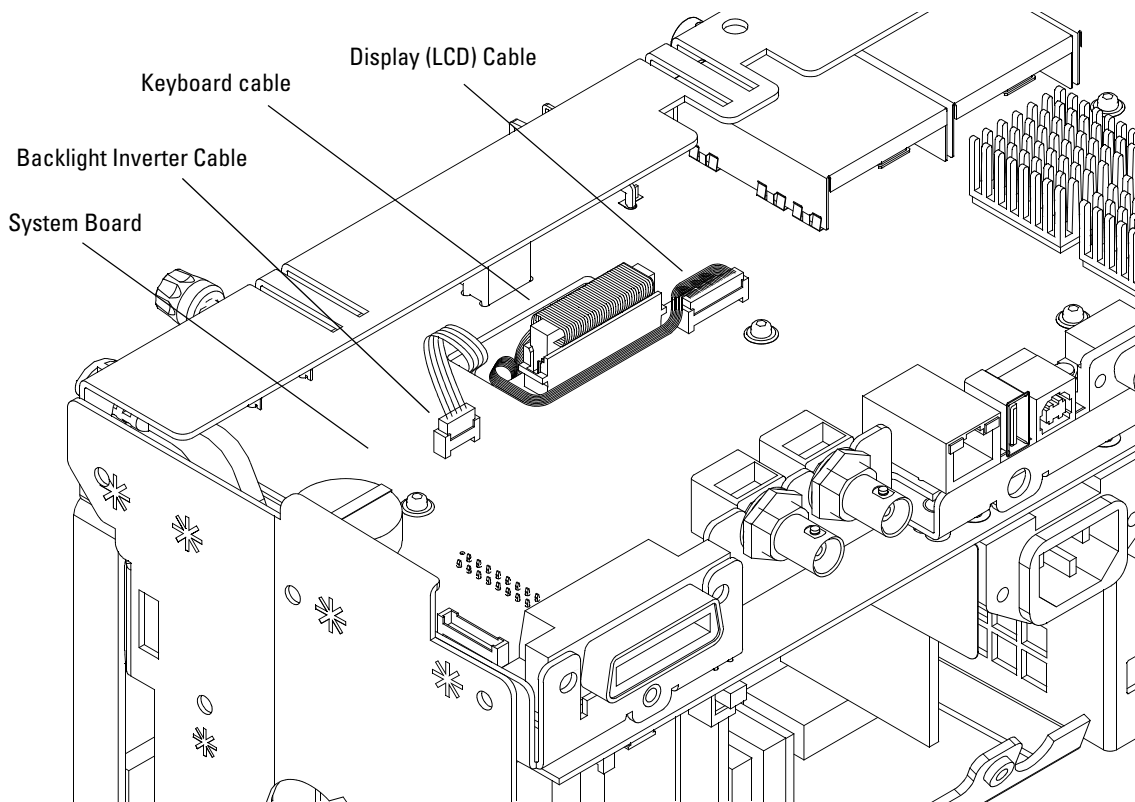

Figure 24 Disconnecting the display cables (bottom view of scope)
- d** Route the cables down through the deck hole and reconnect to the system board as shown in Figure 24.